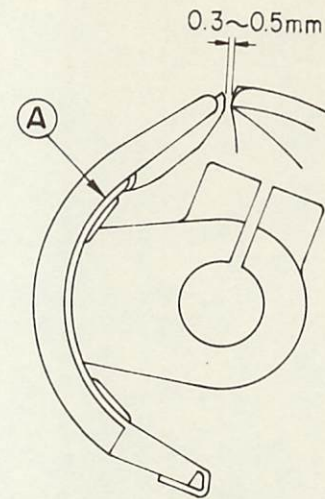

Fig.24
- \* Verify if there is or there is not any bruises on the entire circumference of the shuttle driver spring. In high speed sewing, any bruise on the driver spring spells deathknell to the stitching operation. This is especially true of the thread path finish of both sides of A part and its neighbor area. (Fig.24)
When this clearance is too small, the needle thread does not slip out well, causing thread breakage or the needle thread to become extremely too long. Conversely, if the clearance is too big, the sound of the shuttle gets too high. (Fig.24)